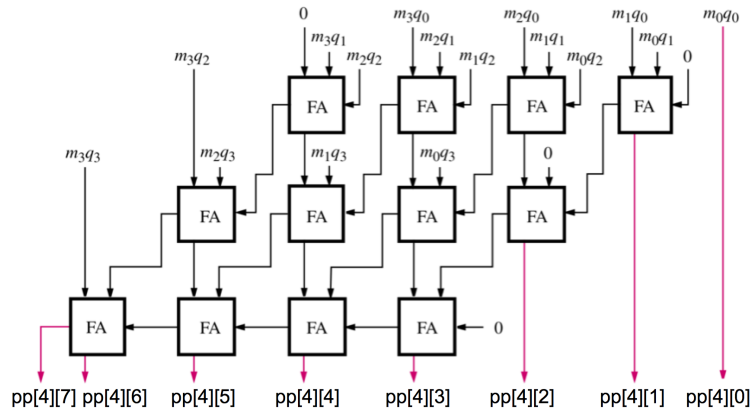

Figure 1: 4-bit Multiplier Carry Save Array (Figure from pg. 354, "Computer Organization and Embedded Systems", 6th ed., Hamacher, Vranesic, Zaky and Manjikian)
A simple multiplier performs multiplication in hardware in a manner similar to performing it by hand. This type of multiplier is called an *Array Multiplier*. However, array multipliers are quite slow. Faster multipliers can compute a product of two numbers more quickly. For Part I you will design an unsigned 8x8 Carry Save Multiplier (CSM). Figure 1 shows an example of 4-bit carry save multiplier architecture.
Figure 1 shows the multiplication of the quotient q0-q3 by the multiplicand m0-m3 to produce the 8-bit result, p0-p7. This 4x4 multiplier uses 3 rows of full-adders (FA) while your multiplier should consist of 7 rows of 8 full-adders each. The input to and output from each adder is referred to as a 'partial product (pp)'. For the 4x4 multiplier shown in Figure 1, the final output is given as pp[4][7:0].